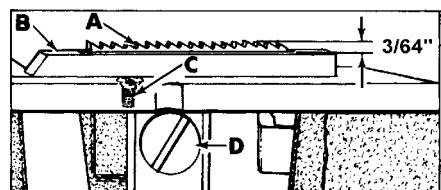

Fig 10
Feed dog (A, Fig. 10) should be centered in throat plate (B) with equal clearance on all sides and ends with feed travel set to desired stitch length. At highest point of travel, tips of feed dog teeth should extend the depth of $3/64"$ above throat plate and parallel to same. Screw (C) should be set to support feed dog after screw (D) has been loosened which secures feed dog in position.